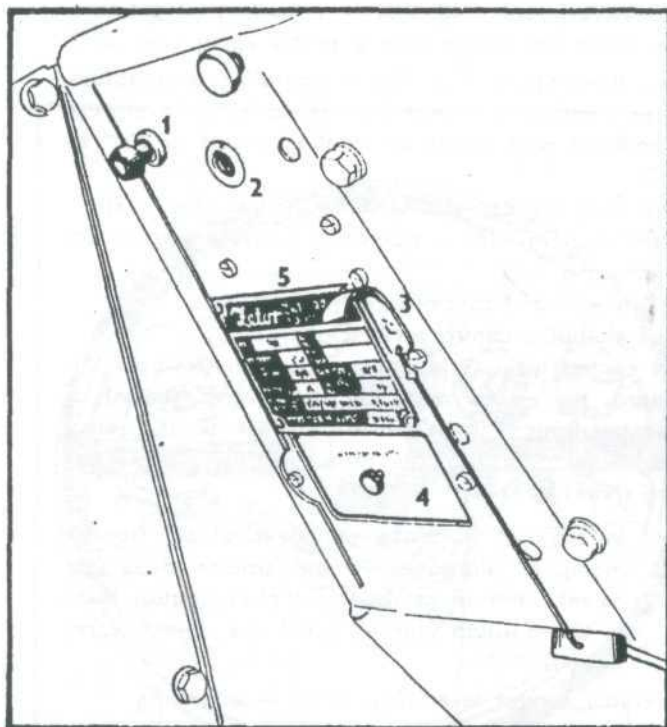

Fig. 2
- Work searchlight switch (Fig. 2/1)
- Fitting lamp socket (Fig. 2/2)
- Radiator shutter control (Fig. 2/3)
- Fuse box (Fig. 2/4)
- Tractor identity plate (Fig. 2/5)